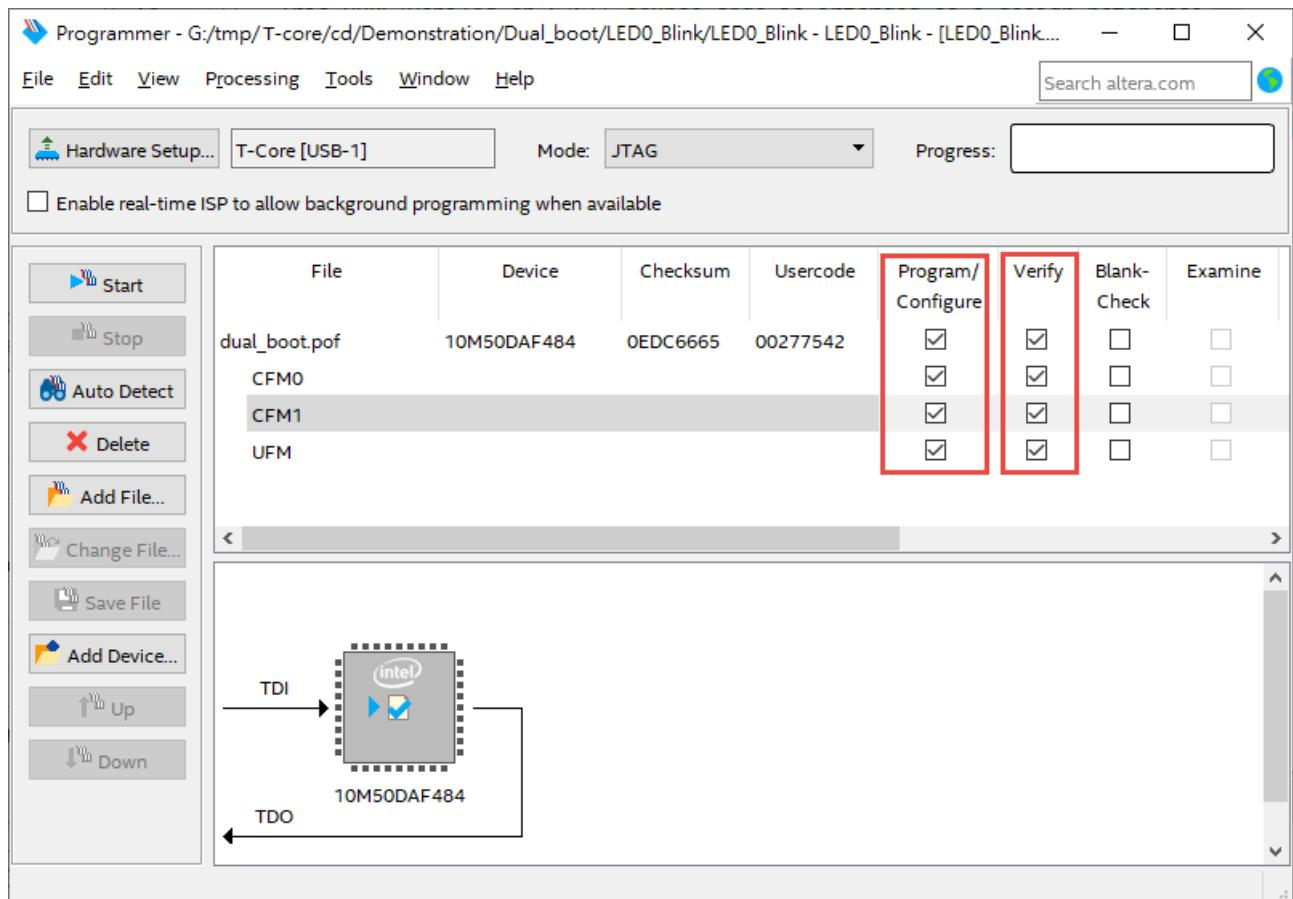

Figure 4-17 Programmer window with dual_boot.pof file
4. Program the **CFM** device by clicking the corresponding **Program/Configure** and **Verify** box, as shown in **Figure 4-17**.